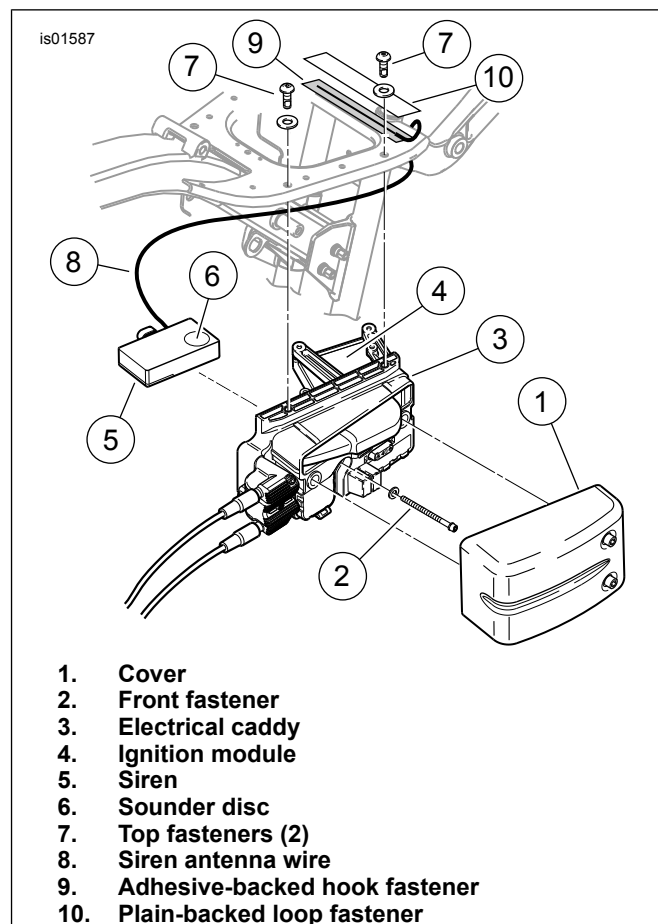

Figure 31. Install Siren in Electrical Caddy (Dyna Models)
1. See Figure 31. Firmly grasp both sides of the electrical caddy cover (1). Pull out to remove.
2. Remove the front electrical caddy screw and washer (2). Remove the two top electrical caddy screws and washers (7).